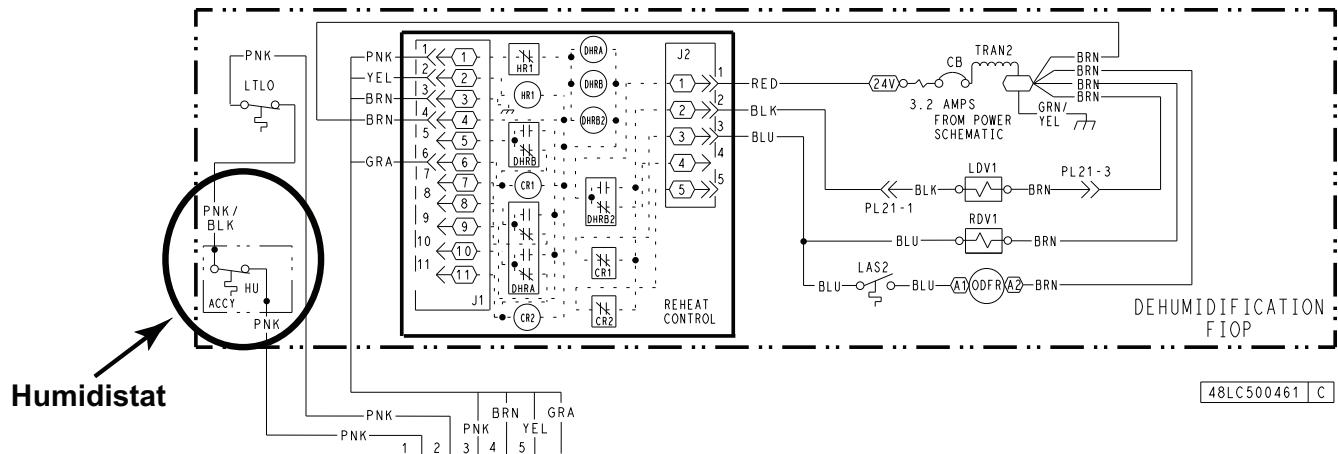

Fig. 51 — Typical Humidi-MiZer® Adaptive Dehumidification System Humidistat Wiring
NOTE: It is suggested to ensure the Auto-Changover function of an installed thermostat is enabled when used in conjunction with the Humidi-MiZer Adaptive Dehumidification system. See Fig. 51.
5. Use wire nuts to connect humidistat cable to the leads in the low-voltage wiring (as shown in Fig. 51), connecting PNK to PNK and PNK/BLK to PNK/BLK.